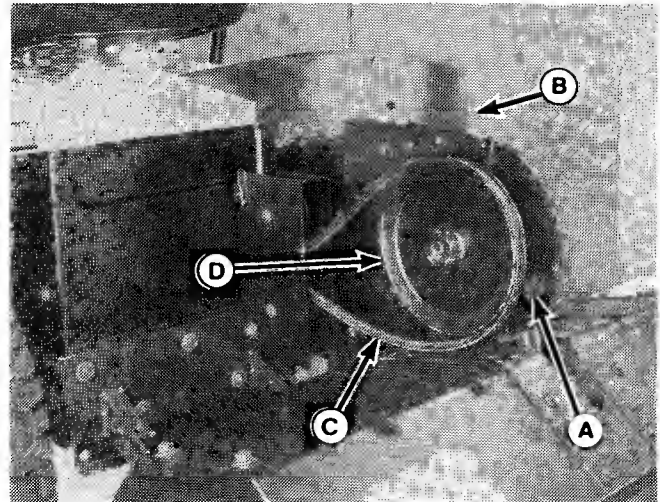
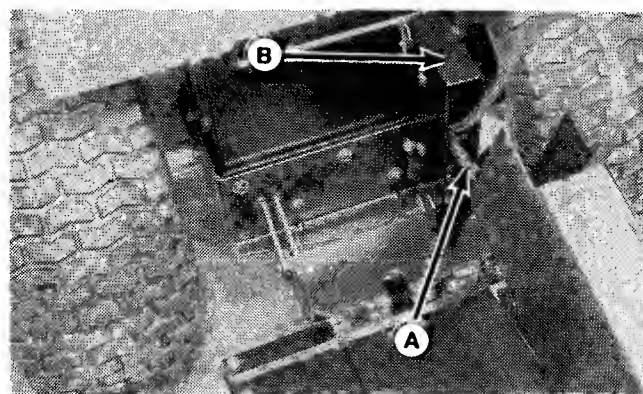

Figure 21.
Figure 25.
1. Remove wingscrew (A, Figure 21) and open tiller cover (B). Remove belt (C) from tiller pulley (D).
6. Pull belt (A, Figure 25) through idler box assembly (B) and install on tiller pulley (D, Figure 21). Close tiller cover and secure with wingscrew (A, Figure 21).